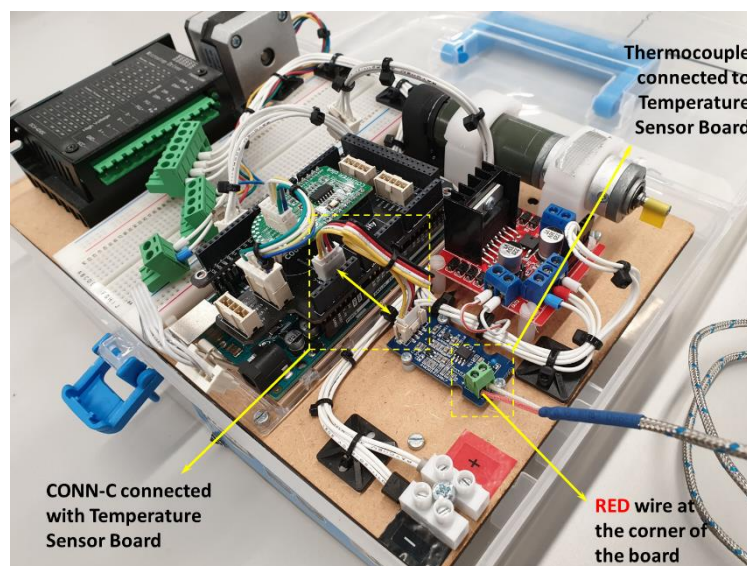

Figure 12 Hardware setup for Lab-1 Exercise-1
7. **Get a demonstrator to check your wiring!** It should look like Figure 12.